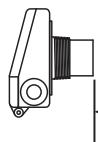

Figure 4.1
- Point the sensor at a target at a known distance near the maximum range of the sensor (See Figure 4.1).